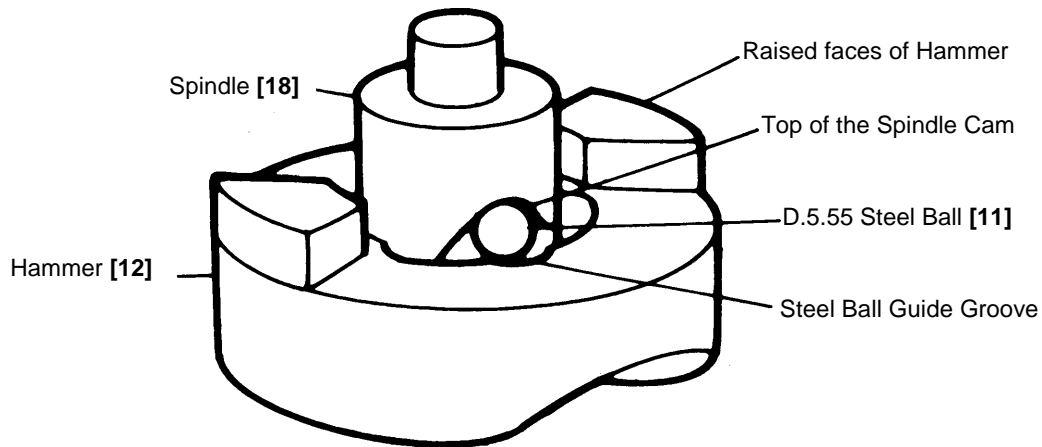

Fig. 2
(4) Removal of the Spring [15]
With a hand press, gently push down on either of the raised faces of the Hammer [12] to compress the Spring [15] and simultaneously press the Stopper (A) [16] (a rubber component) against the end surface of the Hammer [12]. In this position, as illustrated in Fig. 2, extract the two Steel Balls (5.556 mm dia.) [11] from the cam grooves with a small slotted (flat-blade) screwdriver or similar tool. Then, slowly release the hand press and lift the Hammer [12] and Washer (G) [14] together to extract them from the Spindle [18]. The Spring [15] can then be removed.
(2) Assembly of Mechanical Parts
- (A) Insert Washer (H) [17] onto the Spindle [18] from the top, fit Stopper (A) [16] in the groove of the Spindle [18], insert the Spring [15], and fit the Hammer [12], containing the twenty-one Steel Balls (3.97 mm dia.) [13] and the Washer (G) [14] together on the Spindle [18].
- (B) As illustrated in Fig. 2, align the crest of the cam groove on the Spindle and the Steel Ball inserting groove on the Hammer, and press down the top portion of the Hammer with a hand press while simultaneously pressing the outer surface of the Hammer with the Stopper (A) until the Hammer end surface contacts the Spindle.
- (C) Insert the two D5.556 Steel Balls [11] into the grooves as indicated in Fig. 2. Then, after confirming that the Steel Balls are properly inserted, gently release the hand press.
(3) Wire Connections